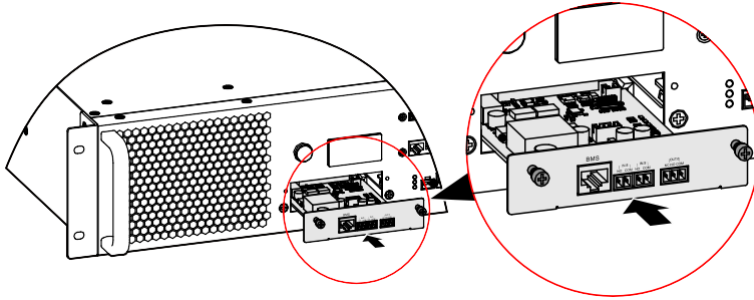

Figure3-24 Install the expansion card
Step 2 Take the expansion card and install it on the bypass unit, as shown in Figure3-24.